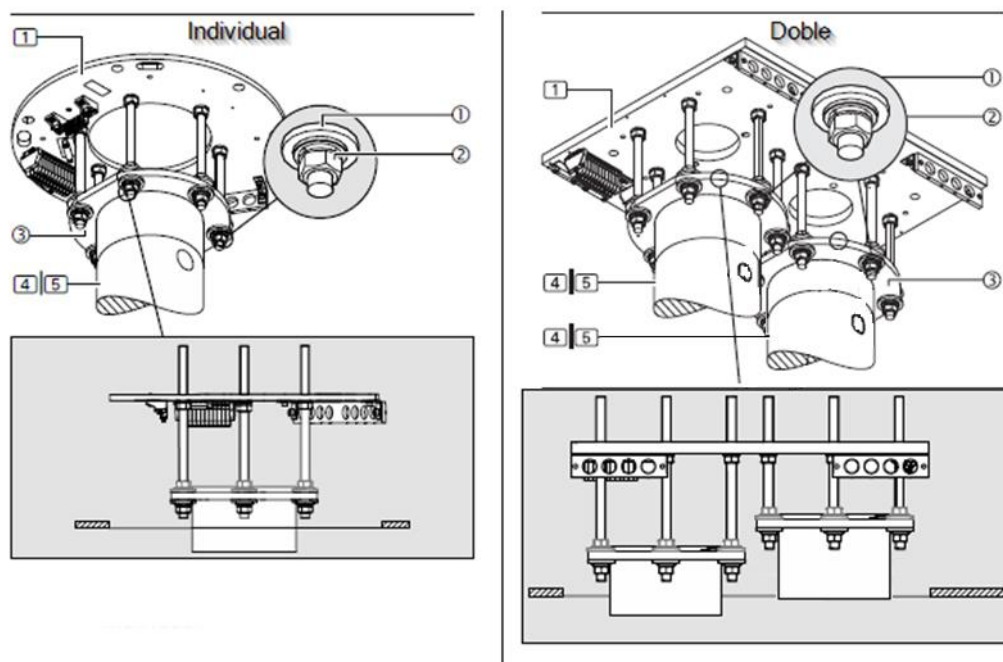

Fig. 15 Alignment of the arms with the Interface plate
- Securely fasten the roof tube flange (6) or, using a suitable lifting device, place it under the M16 threaded bolts (1) of the interface plate (1).
- Insert the roof tube flange (6) into the 6 M16 threaded bolts (1) of the interface plate (1).
- Remove the previously applied adhesive or elastic tape from the threaded bolts (1).
- For each M16 threaded bolt (1), fit 1 plastic insulating disc (2) (as shown in Figure 15) so that the flat washer with an outer diameter of 34 mm (3) sits on the plastic insulating disc (2).
- For each M16 threaded bolt (1), fit 1 flat washer with an external diameter of 34 mm (3), 1 spring disc (4) and 1 M16 hexagon nut (5).